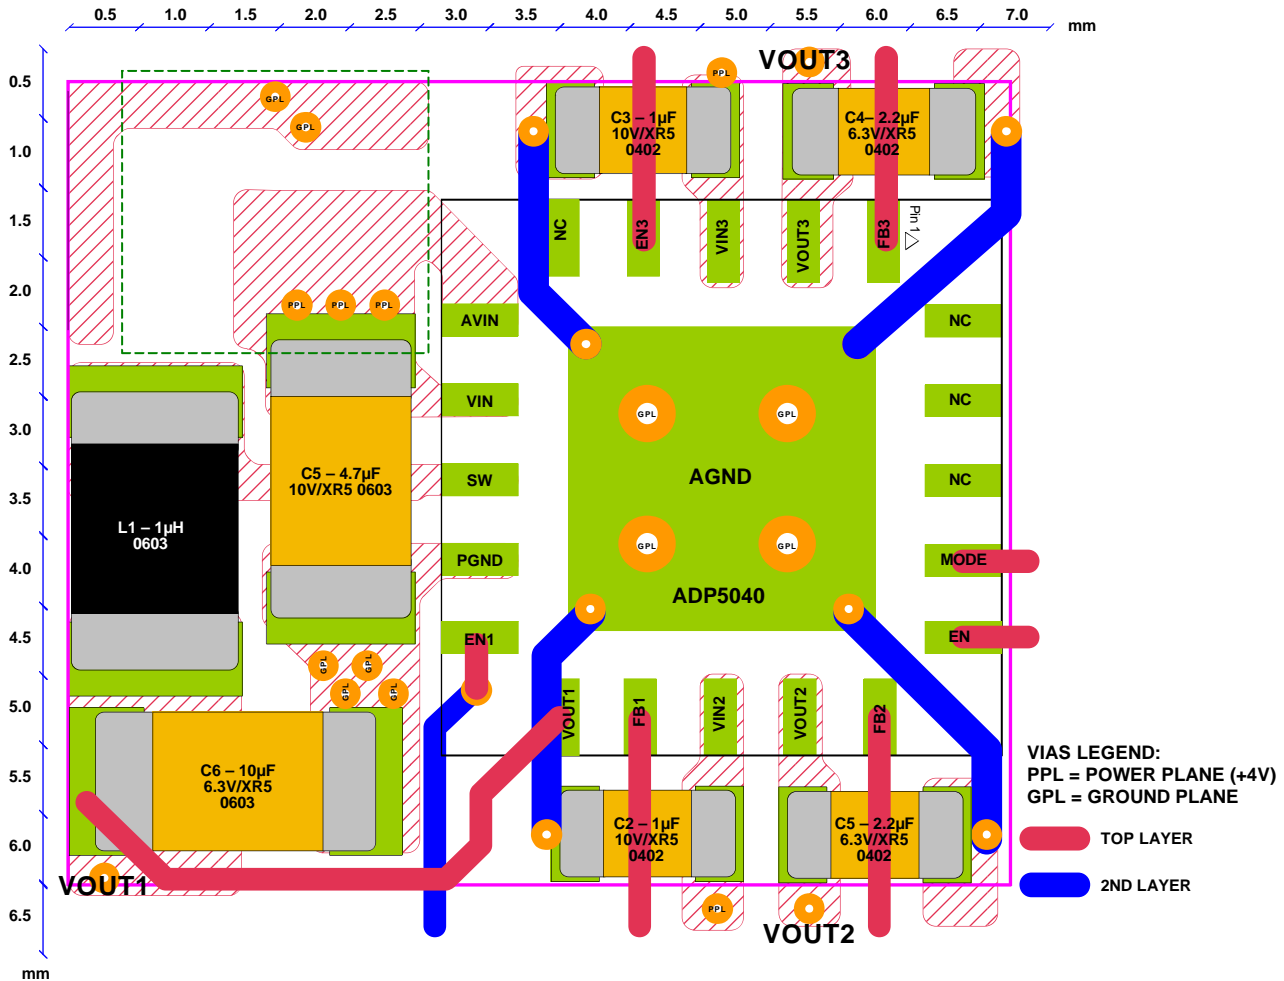

Figure 109. Evaluation Board Layout
Table 6). A very important factor to consider is that θ_{JA} is based on a 4-layer, 4 inch × 3 inch, 2.5 oz copper, as per JEDEC standard, and real applications may use different sizes and layers. To remove heat from the device, it is important to maximize the use of copper. Copper exposed to air dissipates heat better than copper used in the inner layers. The exposed pad (EP) should be connected to the ground plane with several vias as shown in Figure 109.
See Figure 109 for an example layout.